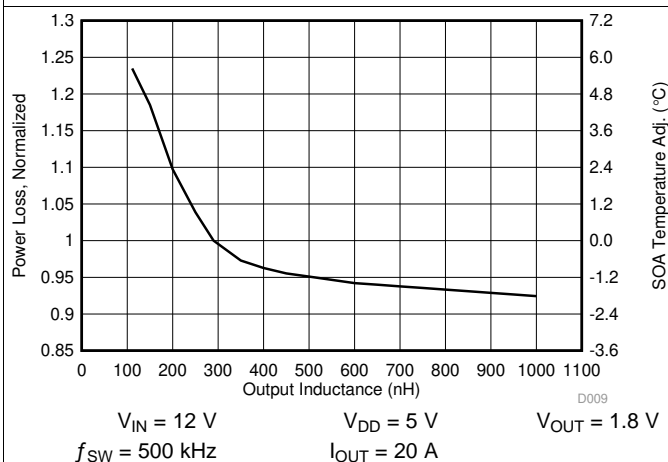

Figure 9. Normalized Power Loss vs Output Inductance
- Normalized power loss for output inductor \approx 1.1 (Figure 9)
- SOA adjustment for output inductor \approx 2.3°C (Figure 9)